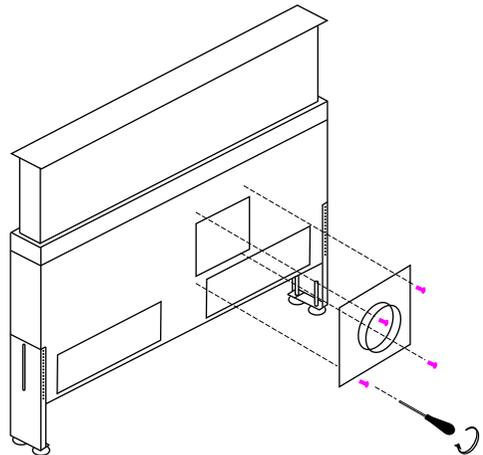

Fig 7
1. When using an AMR or AME motor remove the knock out using a hammer and fix the flange to either the front or back (Fig 7).